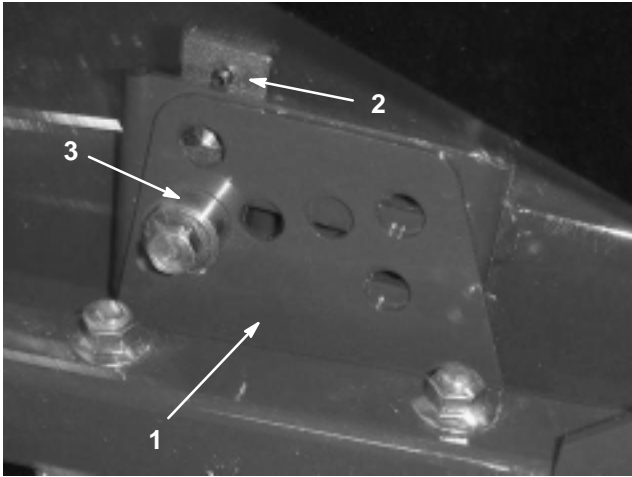

Figure 2
- Loosen capscrew securing each height of cut bracket to height of cut plate (front and each side) (Fig. 2).
- While supporting chamber, remove spacer (Fig. 2).